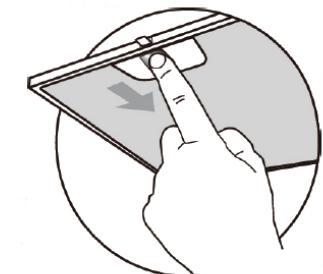

Fig. 3
- Remove the metal filters as shown in Fig. 3. If they are fitted with carbon filters, remove these filters.
- Remove the metal filters as shown in Fig. 3. If they are already fitted with carbon filters, replace them together with the carbon filters.